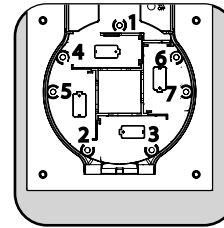

Figure 8
- 3.2 Place the Pürleve Handle against the door as shown. Line-up the seven mounting holes. (Fig. 8)